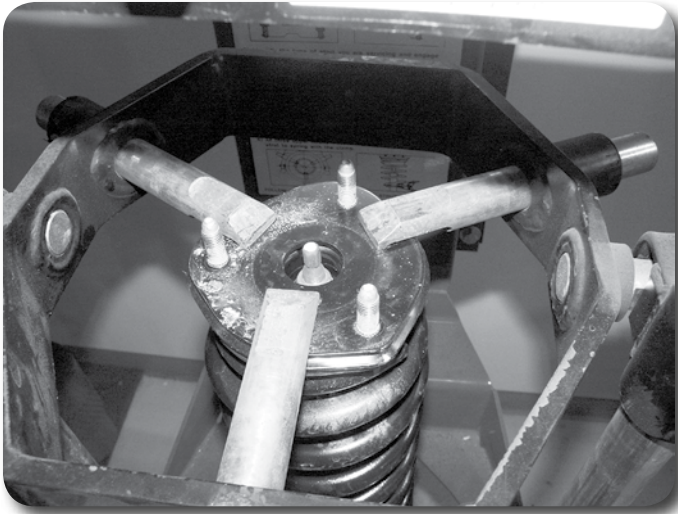

Figure 19
46. Using an appropriate strut compressor, compress the coil spring and remove the upper strut nut **Figure 19**. Remove the strut, strut cap and upper coil seat from the coil spring.